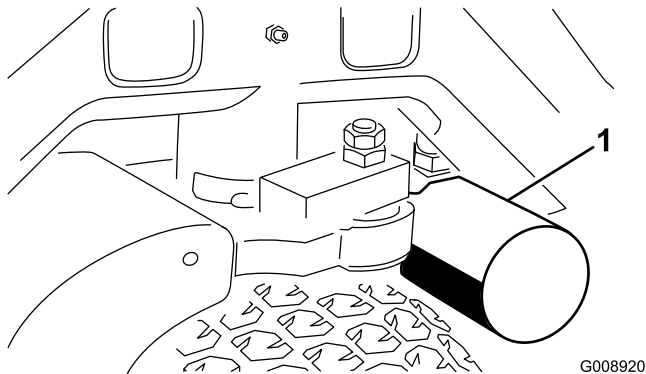

Figure 56
3. Clean around the filter mounting area. Place a drain pan under the filter (Figure 56) and remove the filter.
2. Disconnect the hydraulic line (Figure 57) or remove the hydraulic filter (Figure 56) and let the hydraulic fluid flow into a drain pan. Install the hydraulic line when hydraulic fluid stops draining.